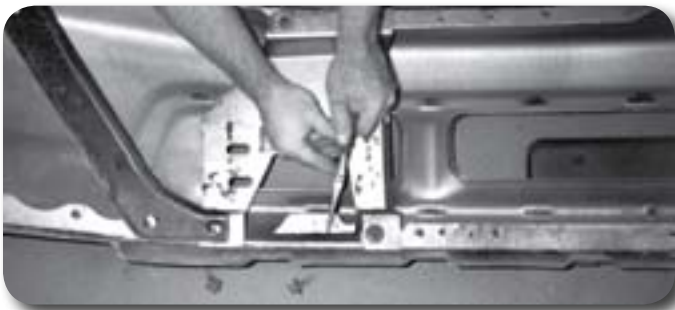

Figure 10
43. The bumper must be trimmed to clear the front spring hangers. Remove the material located between the legs of the bumper brackets down to bend in the bumper **Figure 10**.